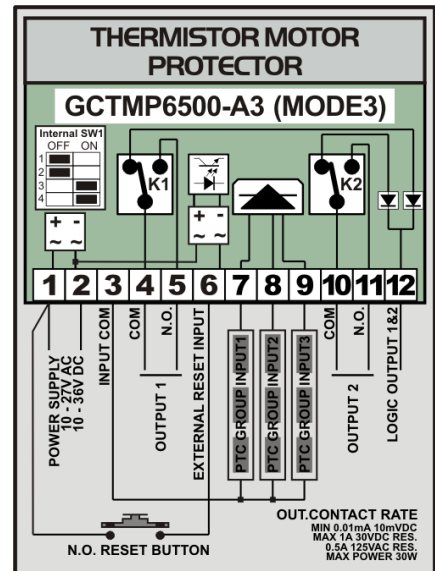

fig. 4
4. 1 Motor with increased protection, through a connection with 3 single PTC Thermistors or 3 triple PTC Thermistor groups. (Mode 3 - fig. 4). For this operating mode, only the K1 relay is available.
(Modes 3 - *fig. 4*)